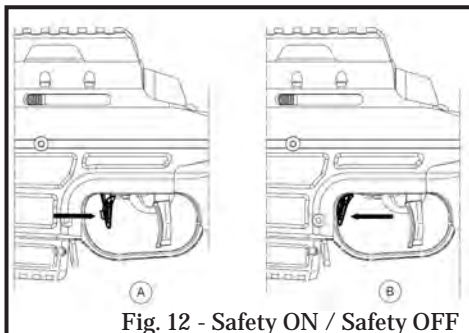

Fig. 12 - Safety ON / Safety OFF
“The safety” is a weapon’s mechanism that blocks the trigger, sear, hammer or firing pin. The safety lever is located inside the trigger guard extending to the sides, where it can be reached by the index finger. The safety is engaged ON when the safety lever has been pulled backwards to its rearmost position (A) (Fig. 12).
The safety is engaged OFF, i.e. the rifle is ready to fire, when the safety lever has been pushed forward to its foremost position (B) (Fig. 12). When silent use of the safety is required, the user can use the thumb and index finger together when moving the safety lever.